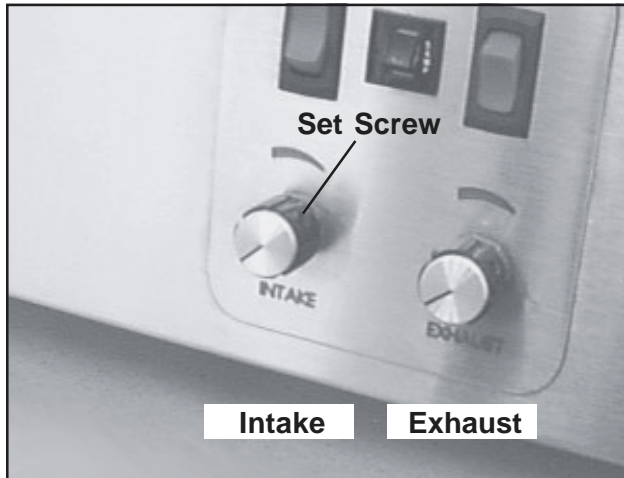

Figure 62. Blower Speed Controller Knobs
The knobs on the blower speed controllers are identical and can be used for either function (Figure 62). The procedures for replacing knobs are the same for both the intake and exhaust controllers. It is not necessary to remove the front panel to replace these knobs.
1. Rotate the knob fully clockwise (Figure 62).